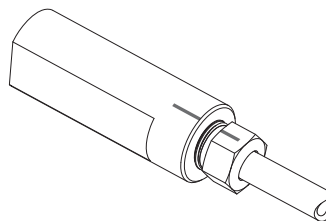

Fig.6
3. Mark the nut and the manual presetting tool (Fig. 6).